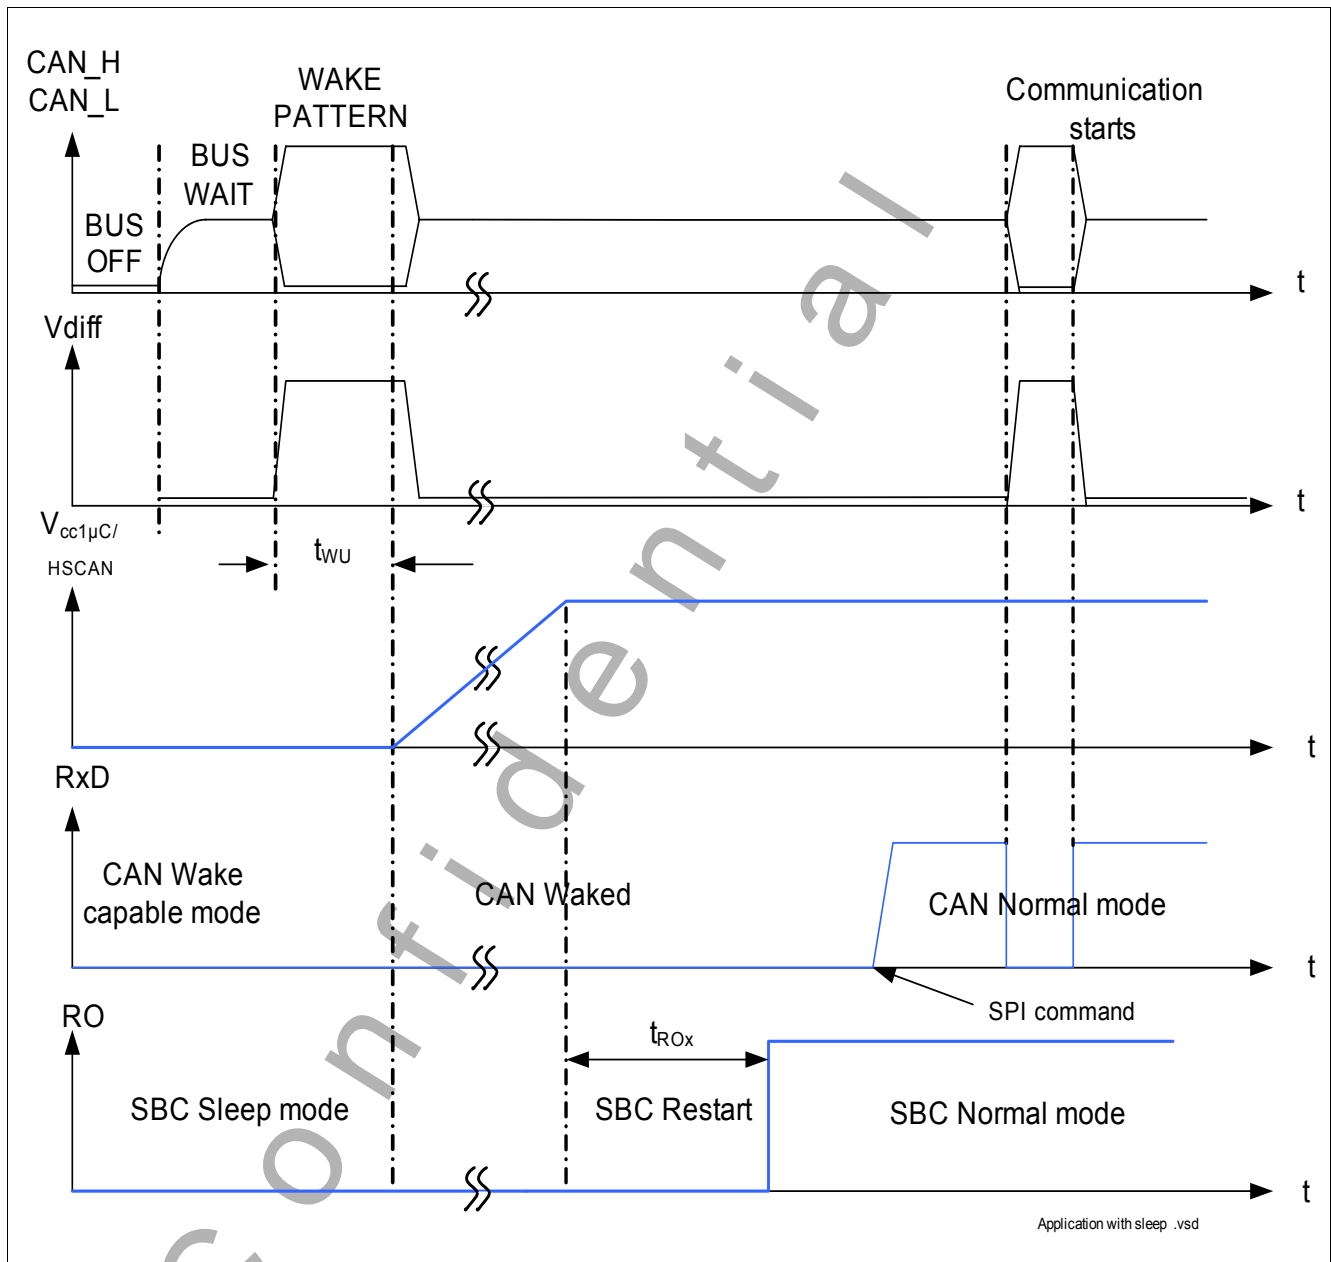

Figure 11 Timing during Transition from Sleep to Normal Mode
Refer to Figure 11 for a description of the matching of the transceiver modes with the SBC mode.
Wake-up is possible via a CAN message (filtering time $t > t_{WU}$), it automatically transfers the SBC into the SBC Restart Mode and from there to Normal Mode the RxD pins in set to LOW, see Figure 11. The microcontroller is able to detect the low signal on RxD and to read the wake source out of the "Wake Register Interrupt" register (000) via SPI. No Interrupt is generated when coming out of Sleep Mode.
In SBC Sleep Mode, a wake-up on the CAN cell will set the SBC to Restart Mode automatically if the CAN Wake Capable Mode of the SBC is selected via SPI. Figure 11 shows the typical timing.